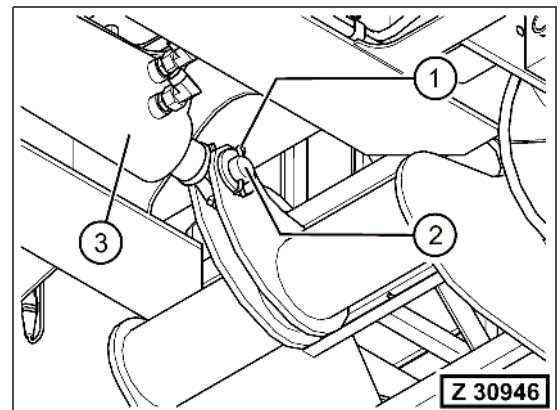

Fig. 3-482
10. Assemble the pin (Fig. 3-482, Pos. 2) and install the cotter pin (Fig. 3-482, Pos. 1).
11. Remove the access stairway cylinder (Fig. 3-482, Pos. 3) fixation.